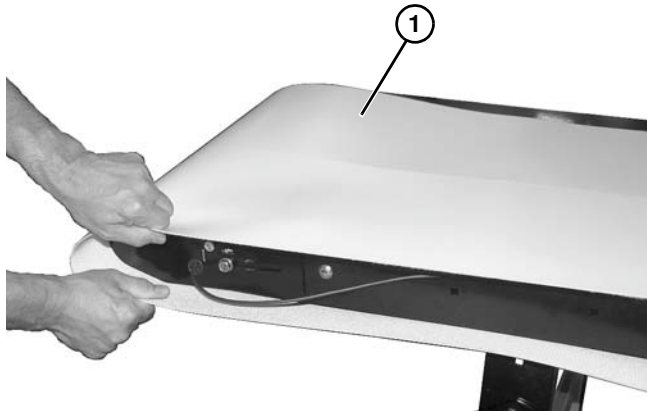

Figure 71
8. Remove belt (**Figure 71, item 1**) from conveyor, one stand at a time. Start on one end of conveyor and work down to opposite end.